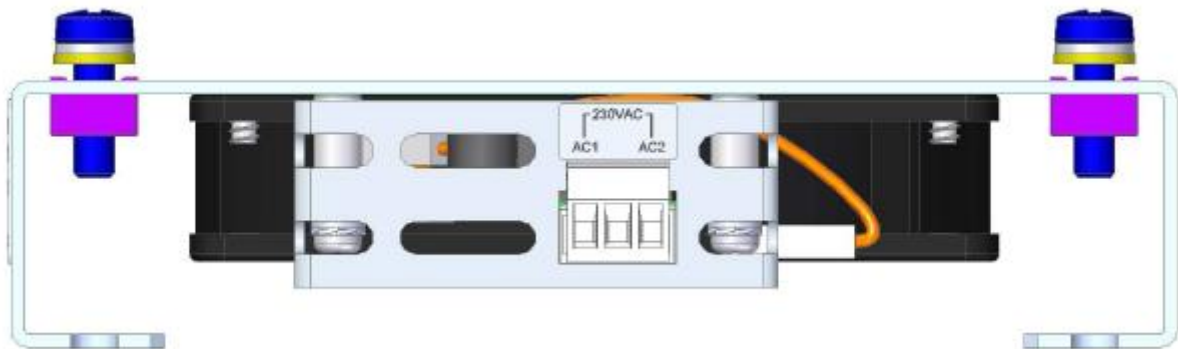

Figure 40: Fan power connection
Step 5: Connect power to the fans. Refer to Figure 40 – connect **LINE** to **AC1**, **NEUTRAL** to **AC2**.